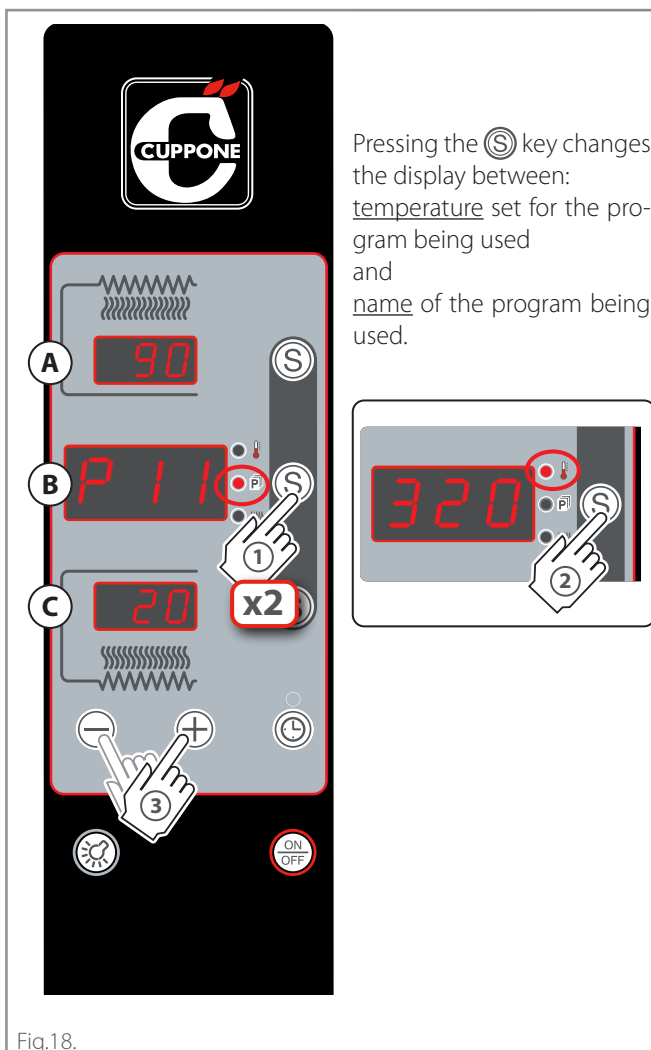

Fig.18.
See ► chap. **"Use of a previously stored programme"** on page 17 and ► Fig.18.
► Fig.18.
- ① Quickly press the (S) key twice: the (P) programme LED turns on, the display (B) shows the programme in use (e.g. P11) while the displays (A) and (C) show the percentages of the elements set in the programme.
- ② If you wish to know also the temperature set for the displayed program, press key (S) (the temperature LED will switch on (T)). To display the name of the program again, press key (S).
- ③ To select a different program, when the display (B) shows the name of the program being used (e.g. P11), press the keys "+" and "-" to scroll the list of the 99 available programs.